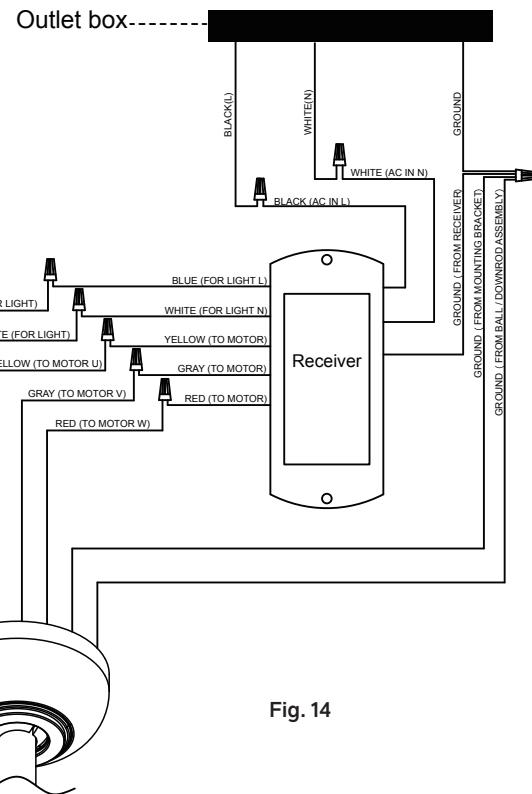

Fig. 14
Step 1. Connect the BLUE (FOR LIGHT) wire from the fan to BLUE wire marked "FOR LIGHT L" from the receiver. (Fig.14)
Step 2. Connect the WHITE (FOR LIGHT) wire from the fan to WHITE wire marked "FOR LIGHT N" from the receiver. (Fig.14)
Step 3. Connect the YELLOW (TO MOTOR U) wire from the fan to YELLOW wire marked "TO MOTOR" from the receiver. (Fig.14)
Step 4. Connect the GRAY (TO MOTOR V) wire from the fan to GRAY wire marked "TO MOTOR" from the receiver. (Fig.14)
Step 5. Connect the RED (TO MOTOR W) wire from the fan to RED wire marked "TO MOTOR" from the receiver. (Fig.14)
Step 6. Connect the BLACK (L) supply wire from outlet box to wire marked BLACK "AC IN L" from the receiver. (Fig. 14)
Step 7. Connect the WHITE (N) neutral wire from outlet box to WHITE wire marked "AC IN N" from the receiver. (Fig. 14)
Step 8. Connect GROUND (GREEN) wires from mounting bracket, hanger ball, and receiver to household GROUND (GREEN) or BARE (COPPER). (Fig.14)